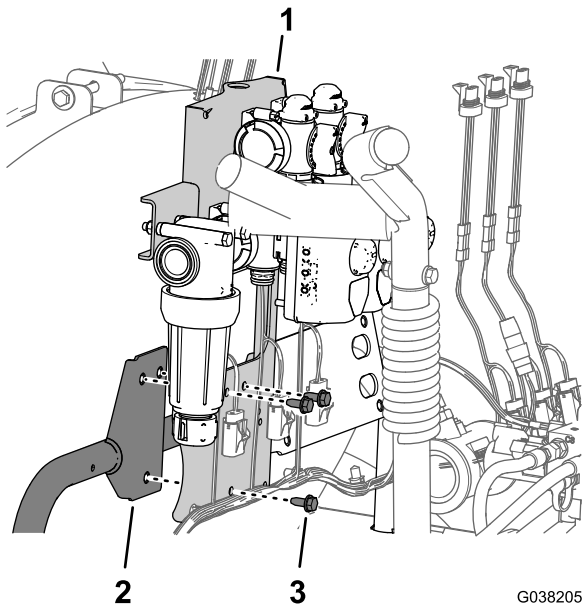

Figure 48
1. Align the 3 holes in the bracket of the agitation, rate, and master-spray valve with the mount (Figure 48).
2. Assemble the bracket for the agitation, rate, and master-spray valves to the mount (Figure 48) with the 3 flange-head bolts (5/16 x 3/4 inch) that you removed in step 1 of Removing the Agitation, Rate, and Master-Spray Valves from the Machine (page 15).